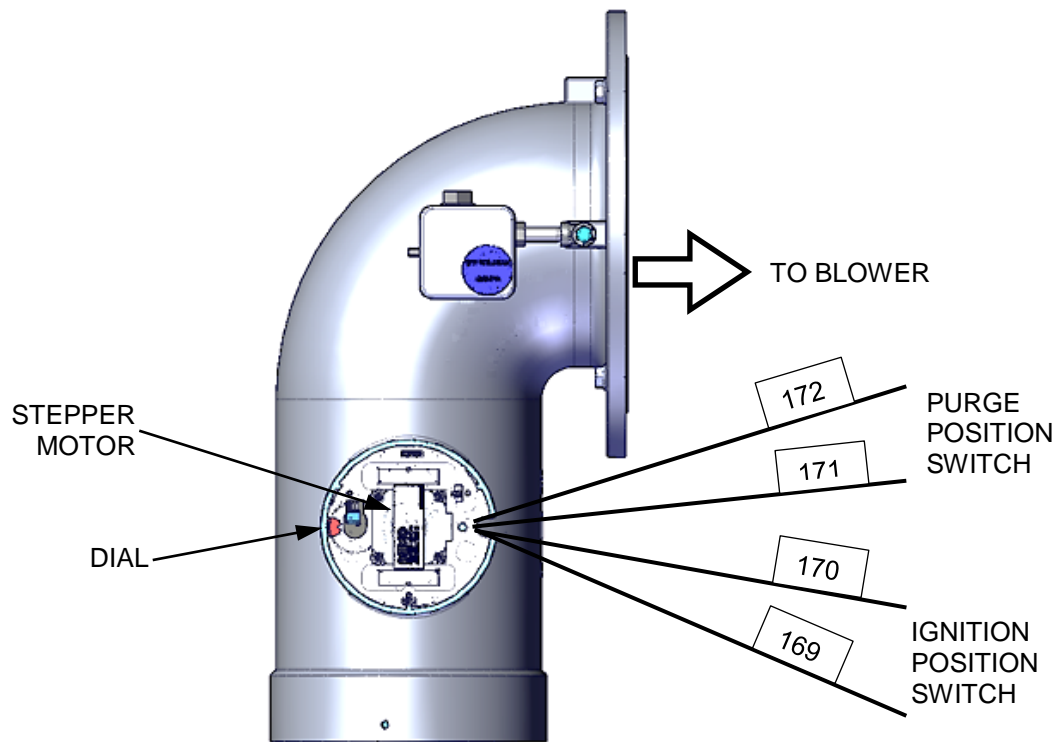

Figure 6-8: Air/Fuel Valve Purge and Ignition Switch Locations
4. Remove one of the two wires (#171 or #172) from the Purge switch (see Figure 6-8, below).
4. Remove one of the two wires (#169 or #170) from the Ignition switch (see Figure 6-8, above).